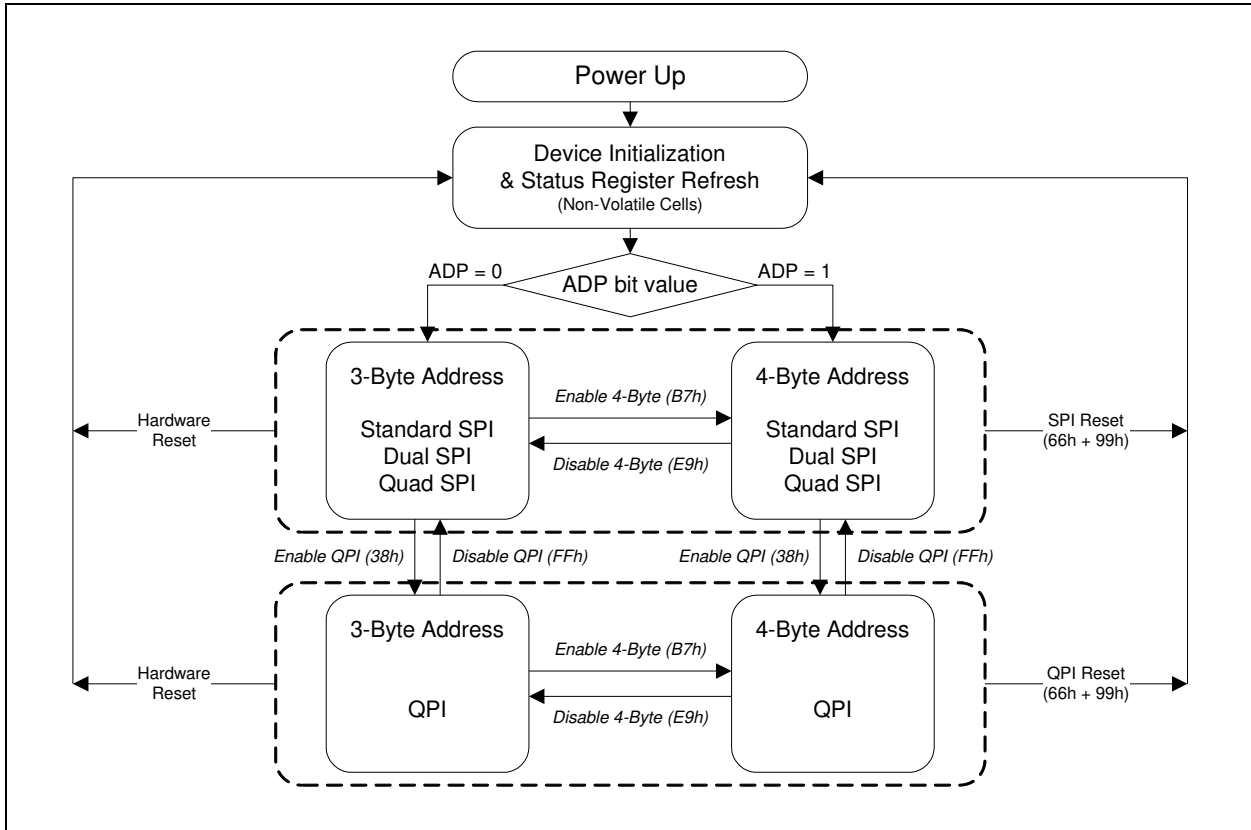

Figure 3. W25Q512JV Serial Flash Memory Operation Diagram
The W25Q512JV supports Quad Peripheral Interface (QPI) operations only when the device is switched from Standard/Dual/Quad SPI mode to QPI mode using the “Enter QPI (38h)” instruction. The typical SPI protocol requires that the byte-long instruction code being shifted into the device only via DI pin in eight serial clocks. The QPI mode utilizes all four IO pins to input the instruction code, thus only two serial clocks are required. This can significantly reduce the SPI instruction overhead and improve system performance in an XIP environment. Standard/Dual/Quad SPI mode and QPI mode are exclusive. Only one mode can be active at any given time. “Enter QPI (38h)” and “Exit QPI (FFh)” instructions are used to switch between these two modes. Upon power-up or after a software reset using “Reset (99h)” instruction, the default state of the device is Standard/Dual/Quad SPI mode. To enable QPI mode, the non-volatile Quad Enable bit (QE) in Status Register-2 is required to be set. When using QPI instructions, the DI and DO pins become bidirectional IO0 and IO1, and the /WP and /HOLD pins become IO2 and IO3 respectively. See Figure 3 for the device operation modes.